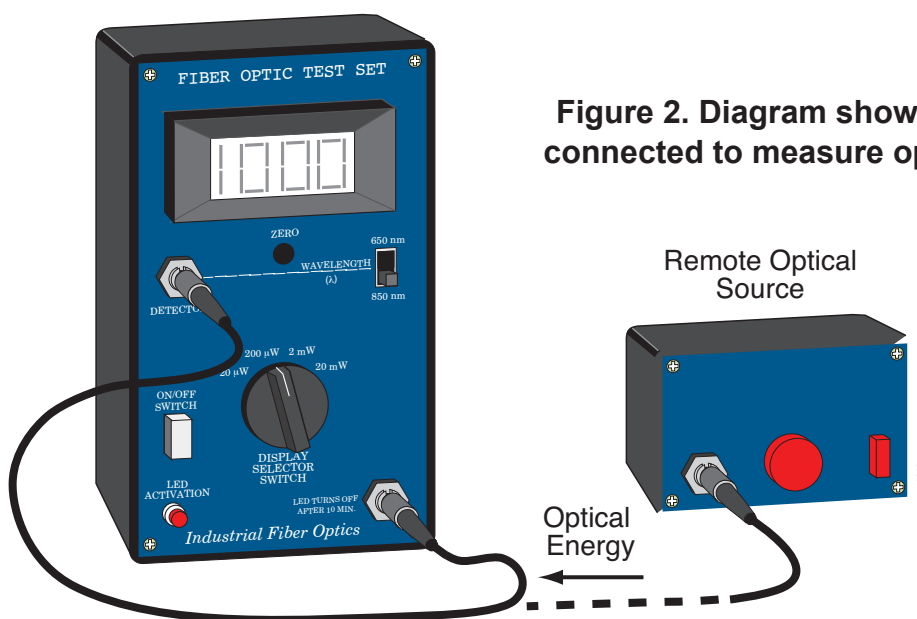

Figure 2. Diagram showing test set connected to measure optical power
4. Attach one end of a connectorized cable to the external optical source or transmitter. If you are using the built-in LED, remove the protective cap from the receptacle and insert the connector. See Figure 2. Insert the remaining connector into the “DETECTOR” receptacle. *When making measurements with un-connectorized cable ends or fiber, gently insert them into the appropriate receptacles on the test set. Do not apply pressure beyond what is required to seat the ends or internal components may be damaged.*